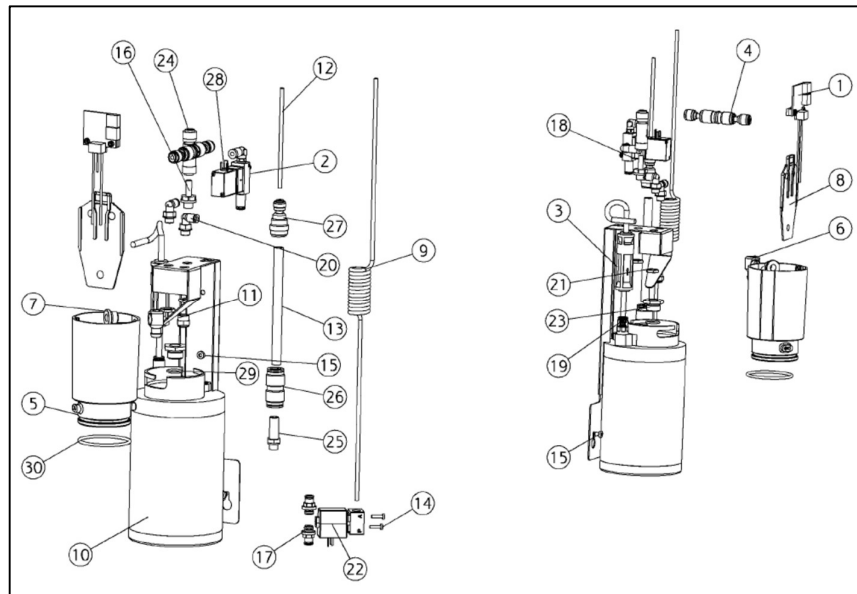

Figure 1 – Backflow prevention
<input type="checkbox"/>	Replace the mixing cup (MG-364) – see (5) in Figure 1.
<input type="checkbox"/>	Re-use the overflow nozzle – see (6) and (7) in Figure 1.
<input type="checkbox"/>	Replace the separation wall (MG-767) – see (8) in Figure 1.
<input type="checkbox"/>	Replace the O-ring (UH-246) and grease it with Paraliq (YR-032) – see (30) in Figure 1.
<input type="checkbox"/>	Replace the water filter (AO-982) – see (3) in Figure 1.
<input type="checkbox"/>	Disassemble and clean the valve (UG-809) – see (23) in Figure 1.